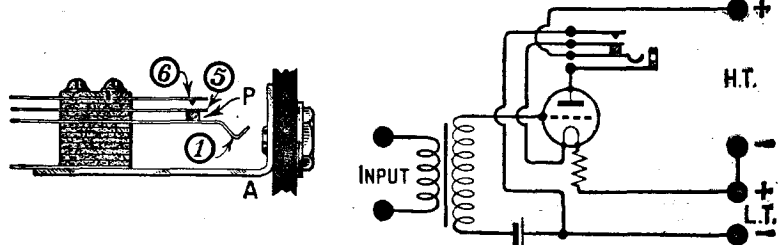

Fig. 5.—The jack depicted above is simply an elaboration of that shown in Fig. 1—two further contacts being added for filament control.
So far the jacks discussed have been those dealing with anode circuit connections only. If the filament of the valve could be switched on by the act of connecting the telephones in circuit, the utility of the system would be greatly enhanced. This is made possible by the addition of further contacts, as shown in Fig. 5, illustrating the "Single Open Circuit Filament Control" jack. Here the blade (1) and the body